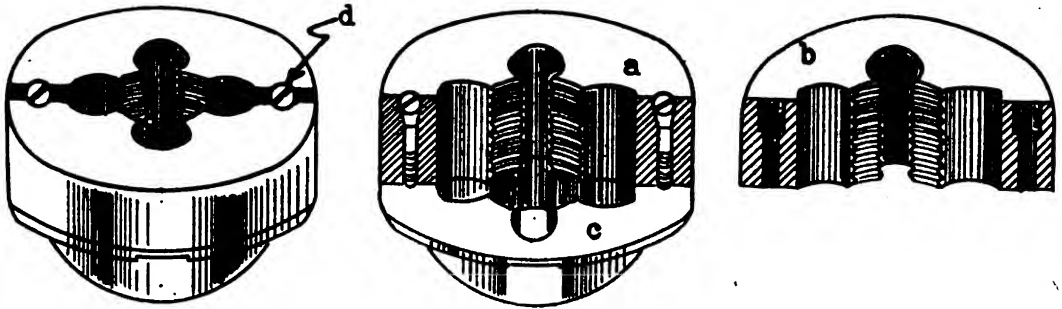

FIGURE 22.—Thread cutting die.
*e.* One type of die is shown in figure 22. It is seen to consist of a screwplate *c*, into which screw the two adjusting screws *d*, which hold the cutters *a* and *b* to the screwplate. The hole through the screwplate is the size of the outside of the threads and therefore the die is started from the screwplate side. It is seen that the die is a hardened nut whose threads are interrupted in four places so that these edges cut just as a tap does. As with the tap, the threads are so arranged that the cut is made gradually. To thread up to an enlargement on a rod, operate the die as far as possible, back it off and then run it on in the reverse position, completing the last two or three